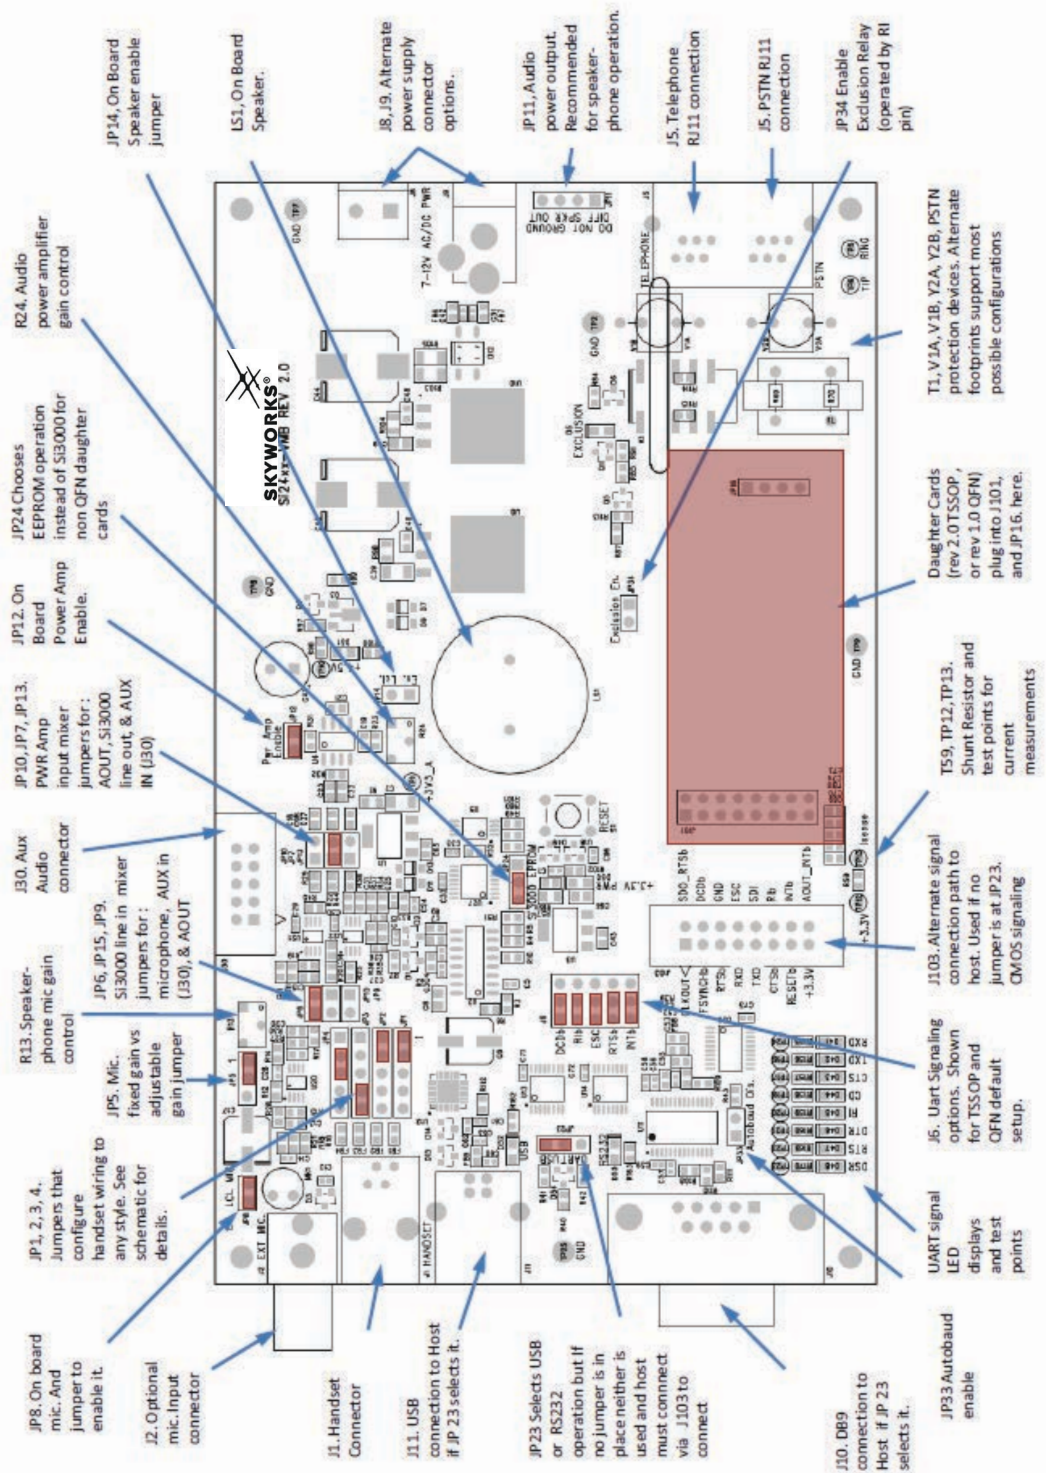

Figure 5. Function and Location of Global Voice ISOmodem EVB Jumpers
Figure 5 shows the function and location of the jumpers present on the global fax EVB.
2. Set jumpers according to the default configuration shown in Figure 5.
1. Set jumpers according to the default configuration shown in Figure 5.